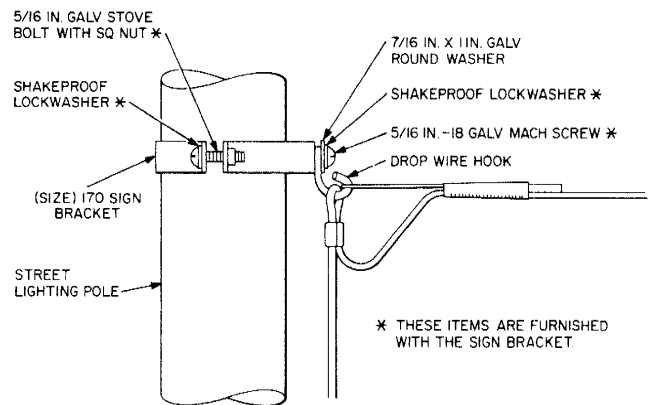

Fig. 9—Attachment To Type 170 Sign Bracket
6.02 Attach drop wire to metal street lighting, traffic signaling, or trolley pole by means of a drop wire hook fastened to a type 170 or 188 sign bracket as illustrated in Fig. 9 and 10. The diameter of the pole determines the type of sign bracket to be used, as follows: